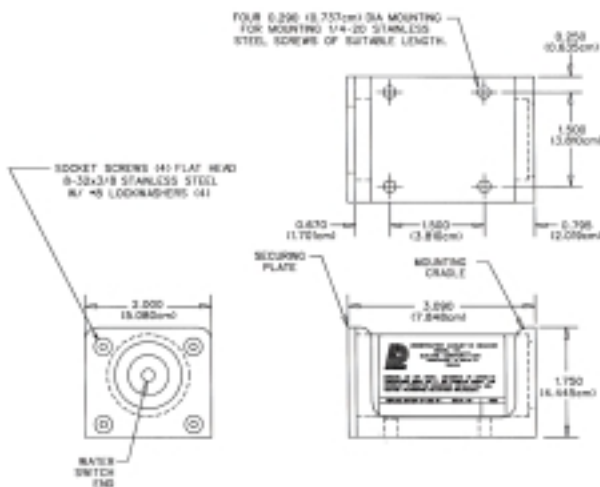

Figure 9. N30A29 Mounting Kit Installation Details
2.8.1. GENERAL. Model N30A29 Series Mounting Kit (Cradle Type) is an aluminum extrusion with a screw-attached securing plate that provides rugged mounting and protection of the beacon within the aircraft. See Figure 9. The beacon should be mounted horizontally with the switch end forward, if possible. If vertical mounting is necessary, switch end must be mounted downward to prevent accumulation of dirt, grease and water on the switch end.
A. Using Figure 9 as a guide, locate the four 0.290 inch (0.737 cm) diameter holes on 1.500 in by 1.500 in (3.810 by 3.810 cm) centers. Be sure access to the securing plate end is available for future beacon installation and removal. Approximately 4.5 inches (11.43 cm) clearance should be allowed for beacon removal.
C. Secure the mounting cradle to the aircraft structure with four 1/4-20 stainless steel screws and associated washers and nuts (not furnished), as shown in Figure 9. Alternate mounting with threaded holes may be employed where structure does not permit nuts on rear side.